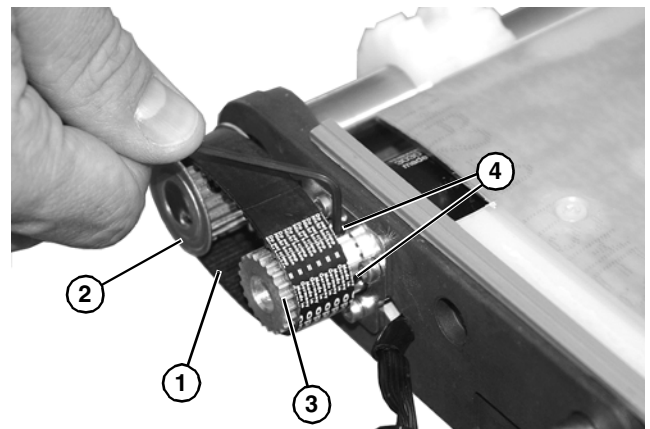

Figure 58
3. Slip timing belt (Figure 58, item 1) over driven pulley (Figure 58, item 2) and slide drive pulley (Figure 58, item 3) through timing belt onto gearmotor shaft.
4. Tighten drive pulley set screws (Figure 58, item 4) on gearhead shaft, making sure one set screw is over flat on shaft, and drive pulley is aligned with driven pulley.